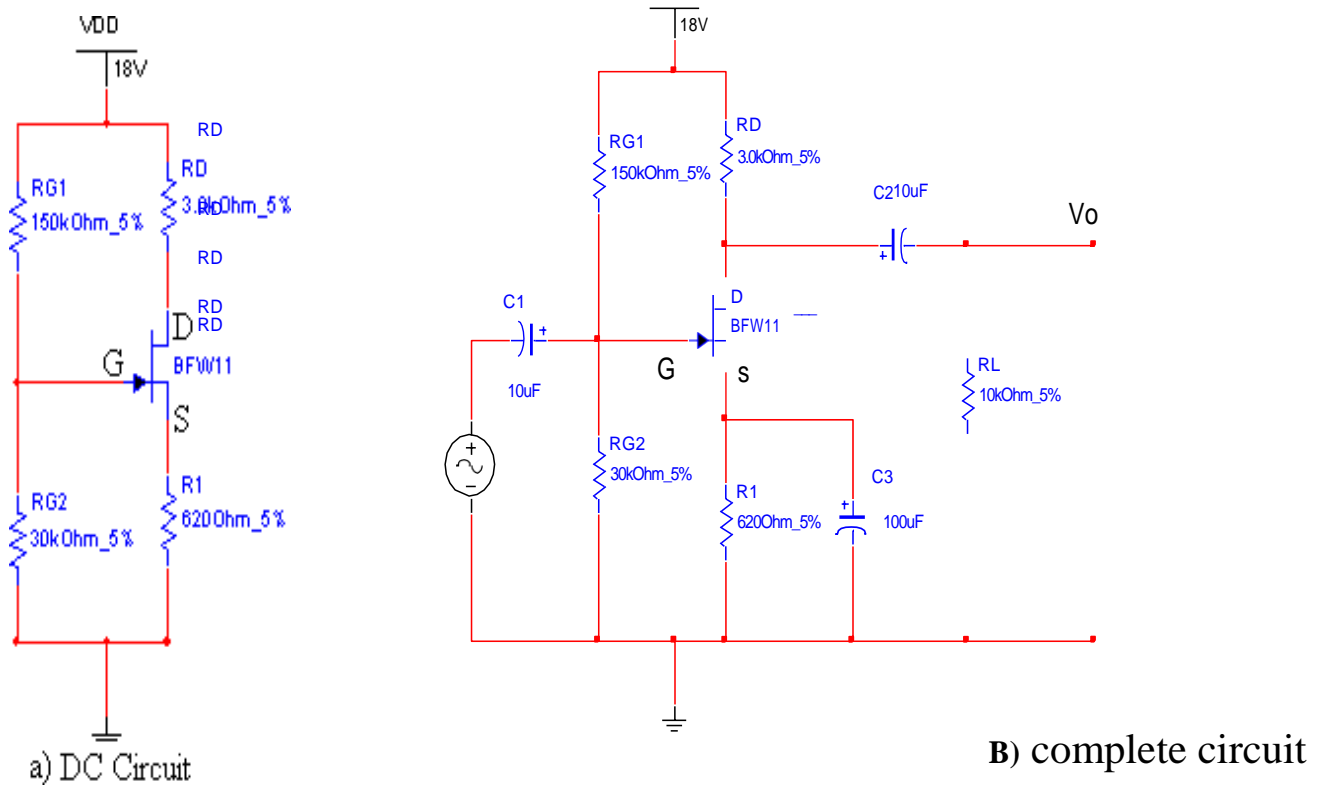

Fig 9.1 Single Stage Common Source JFET Amplifier
4. Calculate the DC operating point I_{DSQ} and V_{DSQ} of the Amplifier circuit in fig 9.1 (a).
6. Draw the AC and DC load lines for the circuit in Fig.9.1(b) and estimate the maximum un-distorted peak to peak output signal amplitude.
1. Connect the circuit in Fig 9.1(a)
5. Connect the circuit in Fig.9.1(b) and fix the frequency of the function generator at 5 KHZ